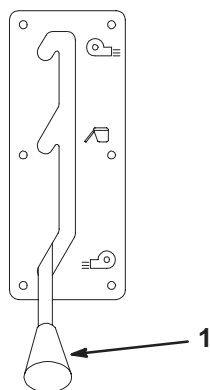

Figure 10
3. Install the oval knob on the draft control and the collector clutch control (Fig. 10).